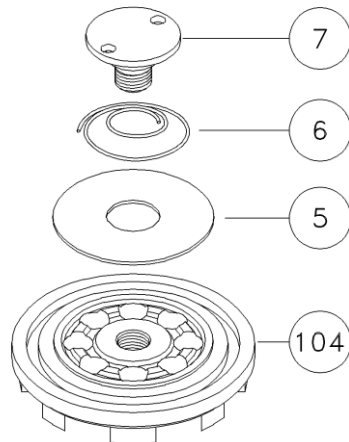

Figure 6-35; Standard bottom valve
- Mount the non-return valve (5) and the springs (6) and screw the valve stop (7) into the housing. In case of assembly always use a new valve and springs (Figure 6-35).